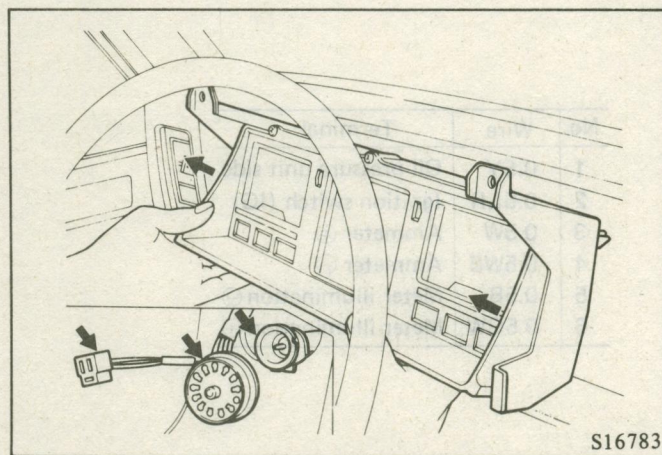

Fig. 88 Removing Meter Assembly
(4) Disconnect the speedometer cable and connectors from the back of the meter, and remove the meter assembly. (Fig. 88)